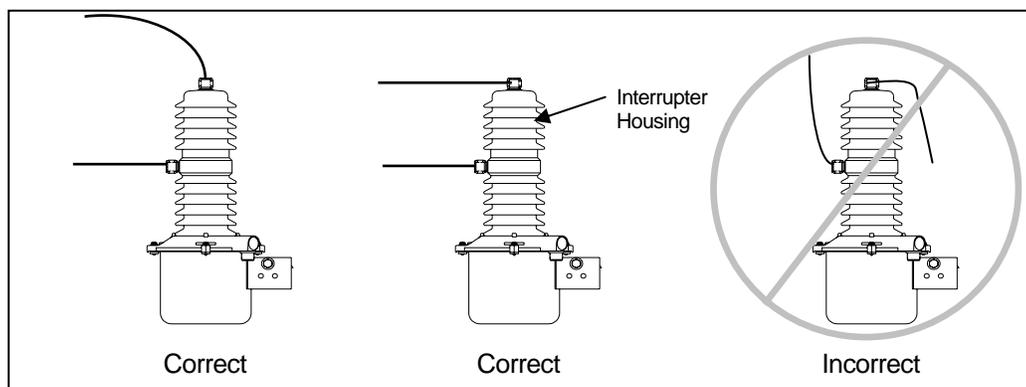

Figure 1: Cable Connections
- The actual connection of the high voltage cables are required to be orientated to avoid close proximity of the switch module to assure proper interrupting performance. The high voltage cables should be orientated to maintain a minimum distance of 12" from the side of the interrupter housing. Figure 1 is provided to demonstrate proper installation details.